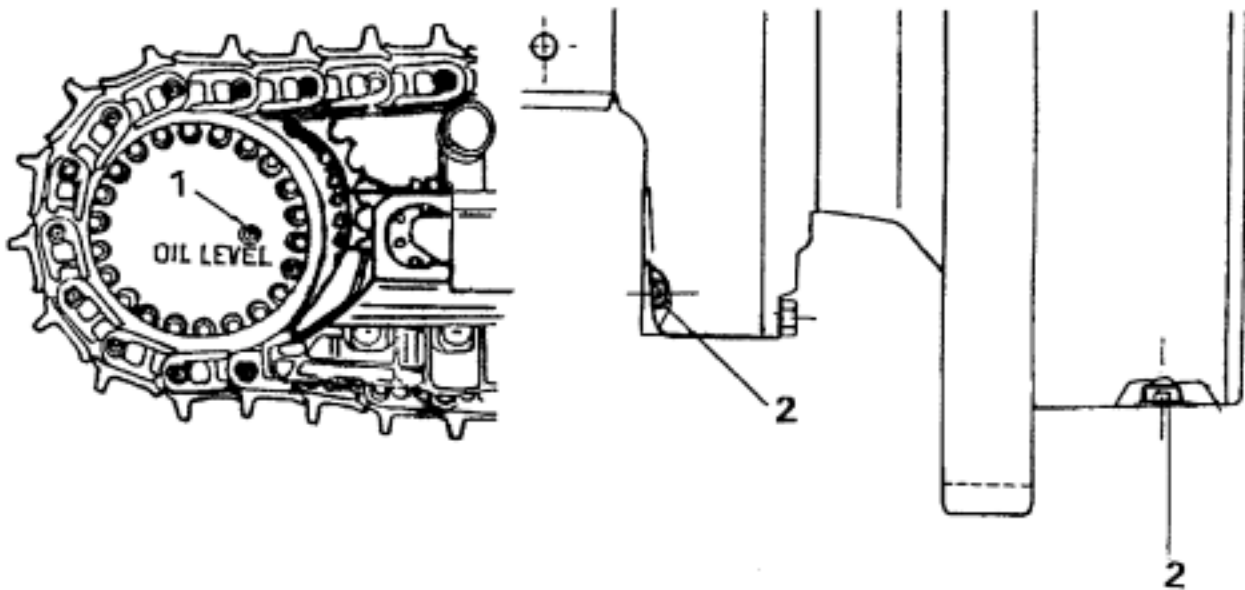

Fig. 5.42. Checking the Lubricant Level
5.17. FINAL DRIVES (Fig. 5.42)